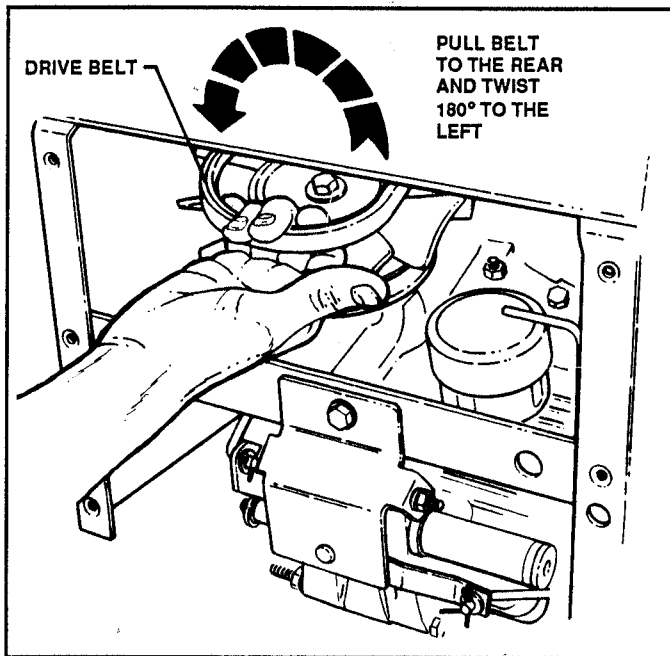

FIGURE 39
4. Reaching in from rear of tractor, grab belt under-handed and twist belt 180° to the left (counterclockwise). See Figure 39.